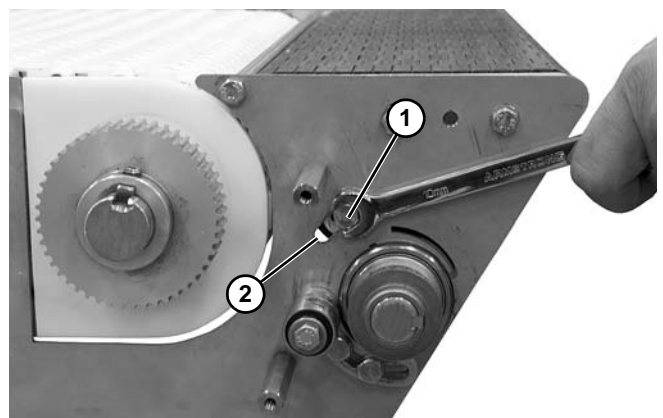

Figure 62
4. Loosen hex head screw (**Figure 62, item 1**) on both sides of the power transfer.
5. Slide idler assembly within slot (**Figure 62, item 2**) to remove tension on belt.